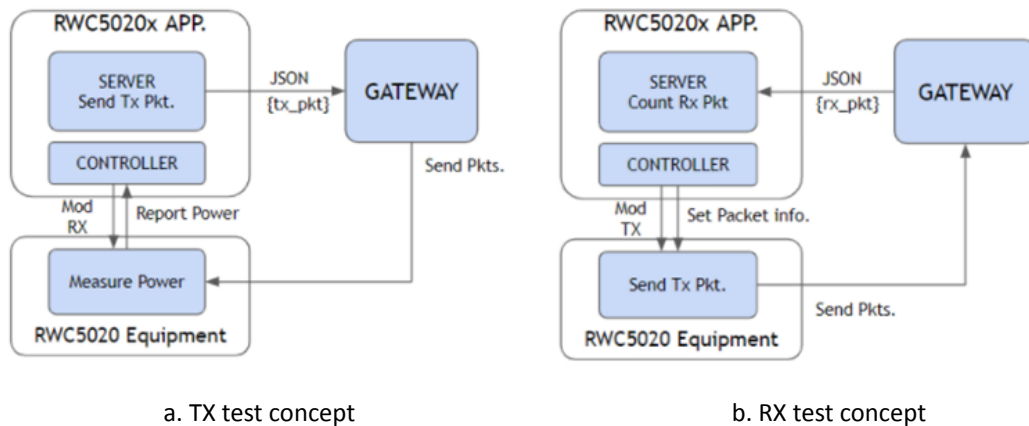

Fig 3.24 Test concept of the Non-regression test with RWC5020x
RWC5020x application program provides a new test method to verify gateway's RF performance without an external network server, which is a part of non-regression tests for gateways defined by SEMTECH. You do not need to connect your gateway to any other network server because the RWC5020x application works as a network server. The test concept is shown in the fig 3.24.
Users need to connect the DUT (GW) with the RWC5020x measurement equipment, and if necessary, connect it with the RWC2020A interference signal generator as shown in Figure 3.24 below. The user's PC, running the RWC5020x application program, will function as a server and measurement controller.